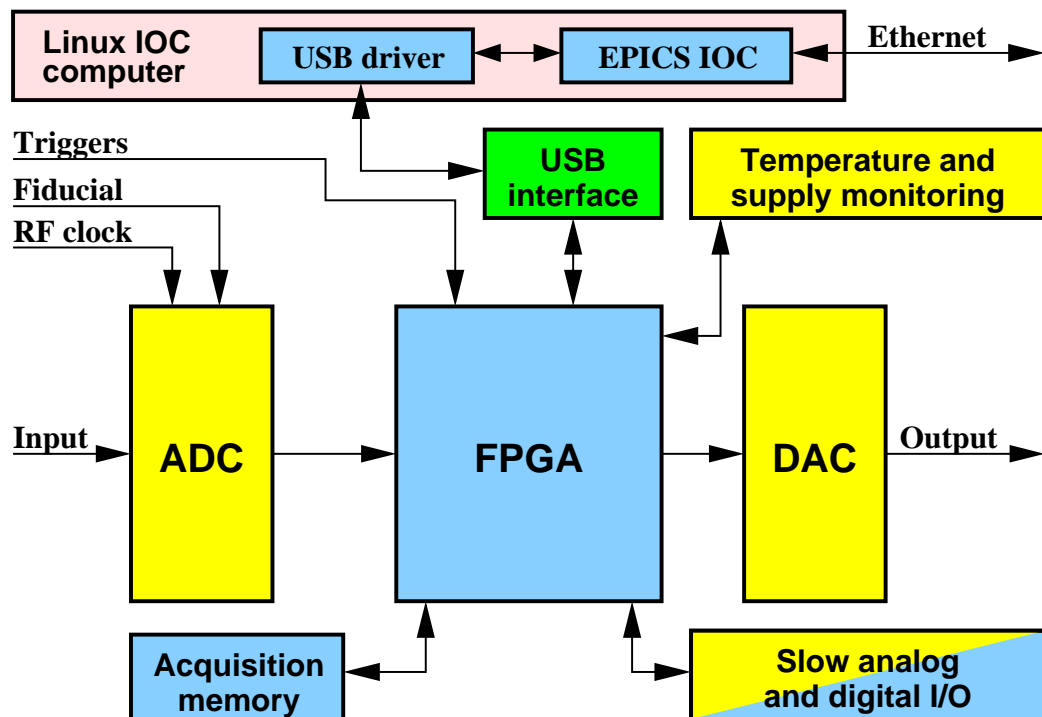

Figure 1: iGp-396F block diagram
A block diagram of the iGp-396F system is shown in Figure 1. The main signal processing chain consists of a high-speed analog-to-digital converter (ADC), a field programmable gate array (FPGA), and a high-speed DAC and is driven by the radio frequency (RF) clock. In addition to performing real-time control computations, the FPGA interfaces to a number of on-board devices, such as high-speed data acquisition memory (static random access memory (SRAM)), low-speed analog and digital input/output (I/O), as well as temperature and supply voltage monitors. In turn, the FPGA uses an internal universal serial bus (USB) connection to communicate to an embedded input-output controller (IOC) computer housed in the same chassis. The IOC runs the Linux operating system and is connected to the overall control system via the Ethernet.